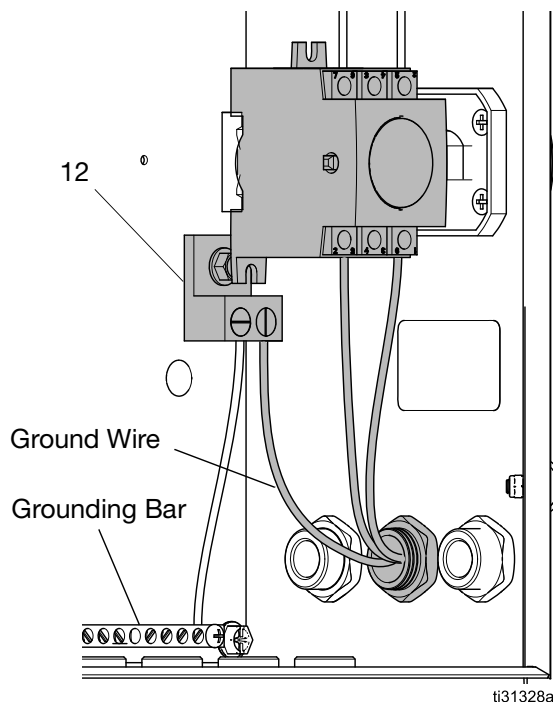

FIG. 1: Grounding Terminal and Bar
Control Box: Contains ground terminal (12), see FIG. 1. Connect the ground terminal (12) to earth ground. Torque the terminal screw to 18-22 in-lbs (2-2.5 N•m). See **Pump Connection** on page 9.